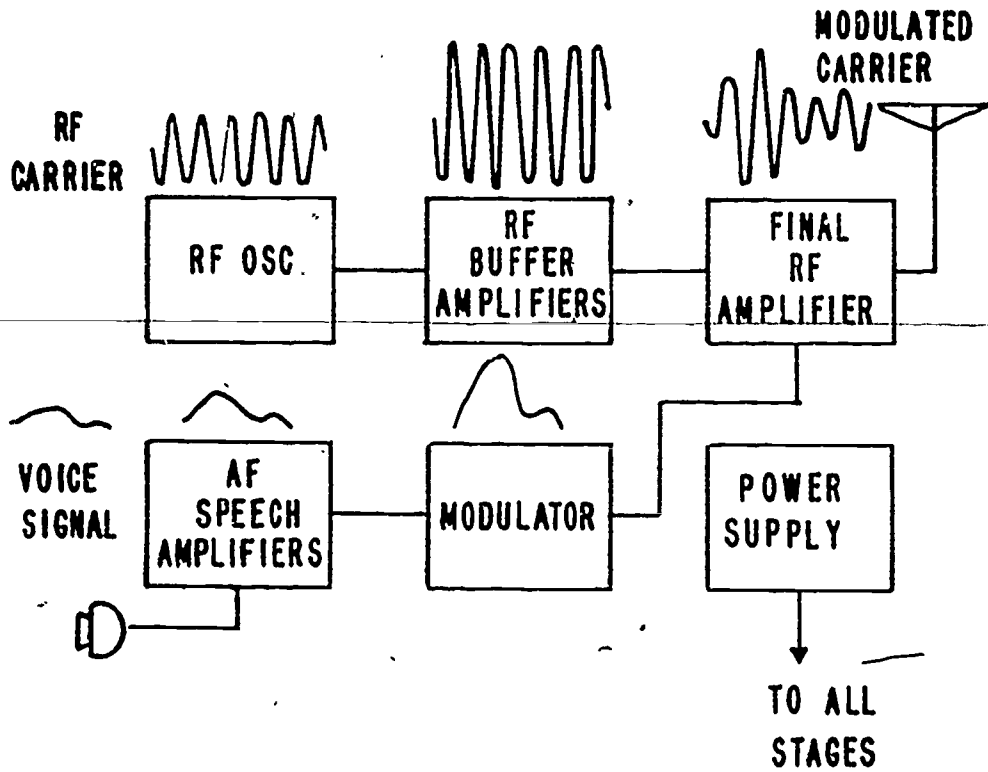

Figure 2-9. Amplitude-modulated radiotelephone transmitter.
- (2) The addition of a buffer amplifier and a speech amplifier (fig. 2-9) improves the performance of the transmitter. The speech amplifier strengthens the voice signal to drive the modulator. The buffer amplifier isolates the oscillator from the final RF amplifier, thus stabilizing the oscillator frequency.
c. Amplitude Modulation. Amplitude modulation is one method of adding information to the RF carrier. This is done by varying the amplitude of the carrier with the audio signal from the microphone. Figure 2-9 shows the stages required and the waveforms produced by the process.
- (1) The carrier is generated by the oscillator and amplified by the buffer amplifier.
- (2) The microphone transforms voice (audio) signals into voltages. The audio signal voltage is amplified by the speech amplifiers
- 6. Frequency stabilization in the AM radiotelephone transmitter in figure 2-9 is accomplished by
7. The purpose of the AF modulator in the transmitter shown in figure 2-9 is to vary the amount of plate power of the
8. In figure 2-9, voice signals are changed into voltages by the action of the